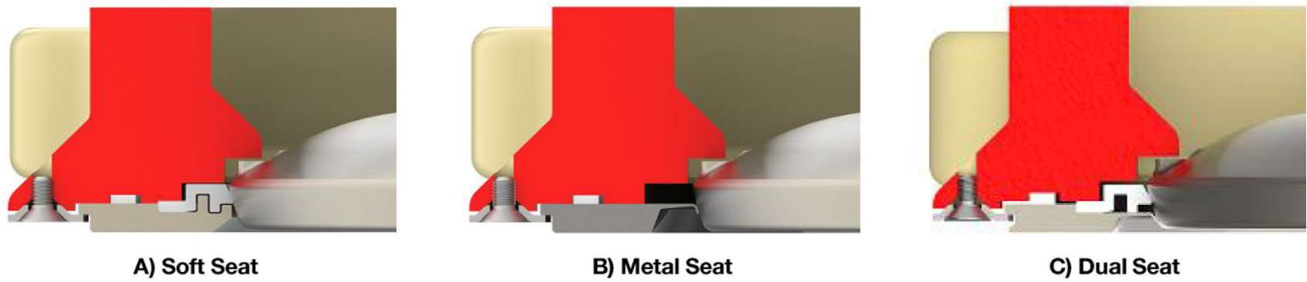

Figure 4: Cross-Sections of Seat Retainer Configurations
WARNING When installing the valve in-line between flanges, make sure the flange face gasket covers both seat retainer and body surfaces. Failure to do so will cause excessive leakage. Refer to Figure 4: A, B and C for seat retainer options and line gasket position.
- On Valtek Valdisk valves supplied with seat retainer clips, remove the seat retainer screws and retainer clips. Lift the seat retainer out of the valve body. (Refer to Figure 4: A, B and C).